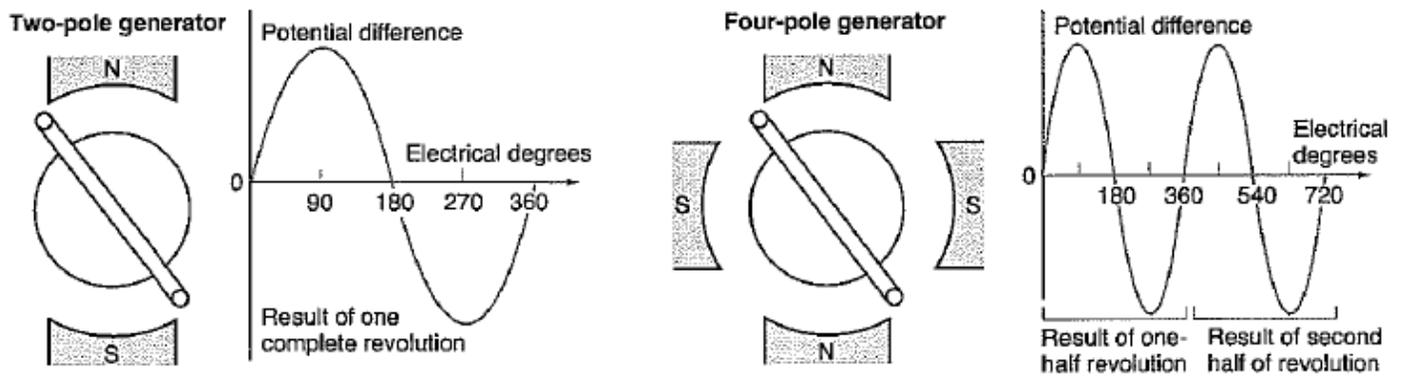

Figure 9.5: Electrical Degrees Compared to Mechanical Degrees
- In a two-pole generator, the conductor makes one complete revolution (360 mechanical degrees) to produce one complete electrical cycle (360 electrical degrees), as shown at the left in Figure 9.5.
- In a four-pole generator, the conductor makes only half a revolution (180 mechanical degrees) to produce one complete electrical cycle (360 electrical degrees), as shown at the right in Figure 9.5.